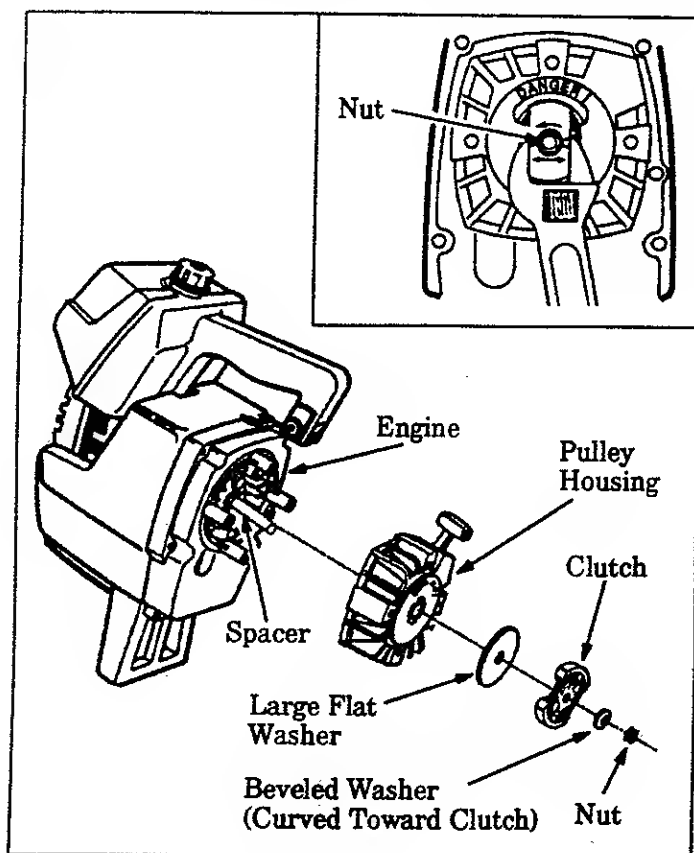

Figure 24
5. Hold the "Flats" of the Clutch with an adjustable wrench as shown in Figure 24 (inset) and remove the Nut counterclockwise with a 9/16" socket wrench.
6. Remove the Beveled Washer, Clutch, and Large Flat Washer as shown in Figure 24.
7. Remove the Pulley Housing from the Engine. Figure 24.
19. Make sure Spacer is in place as shown in Figure 24, then reverse steps 1 through 7 to re-assemble.